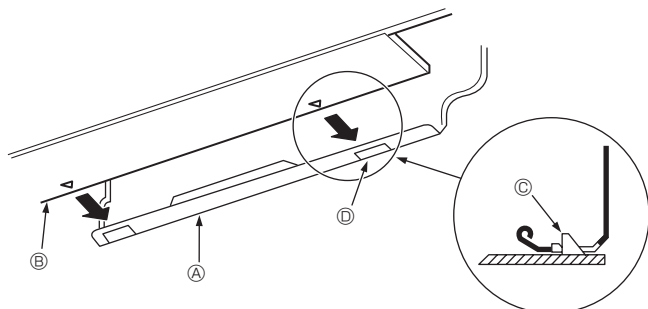

Fig. 3-10
5. Fasten by pushing the bottom part of the indoor unit onto the mount board Ⓢ. (Fig. 3-10)